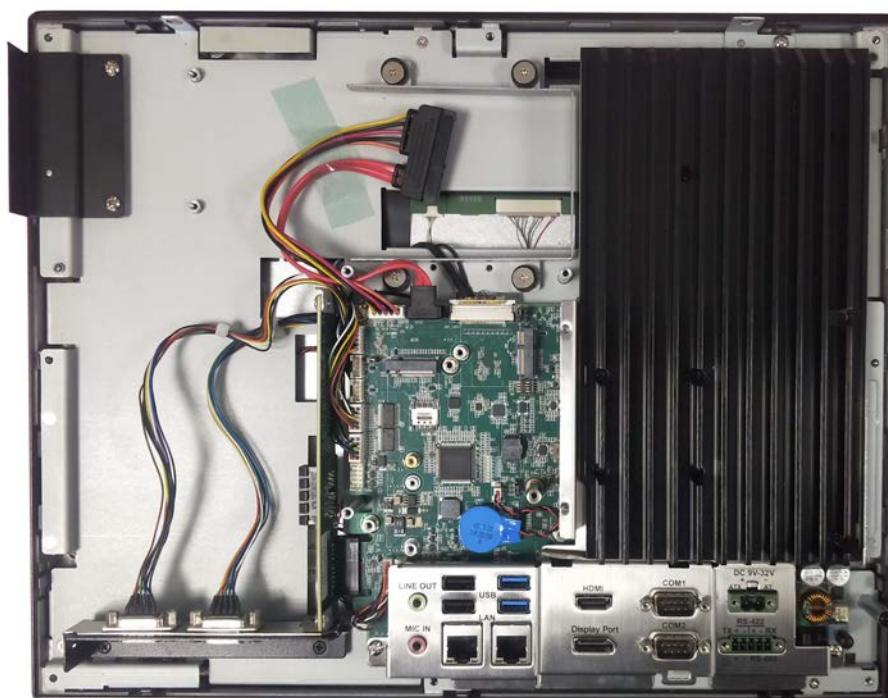

Figure 2.43
4. Affix the shield with COM connectors to the expansion slot backplate and secure in place using a screw. Connect the two COM cables to the mainboard and secure with cable ties (see Fig. 2.43).